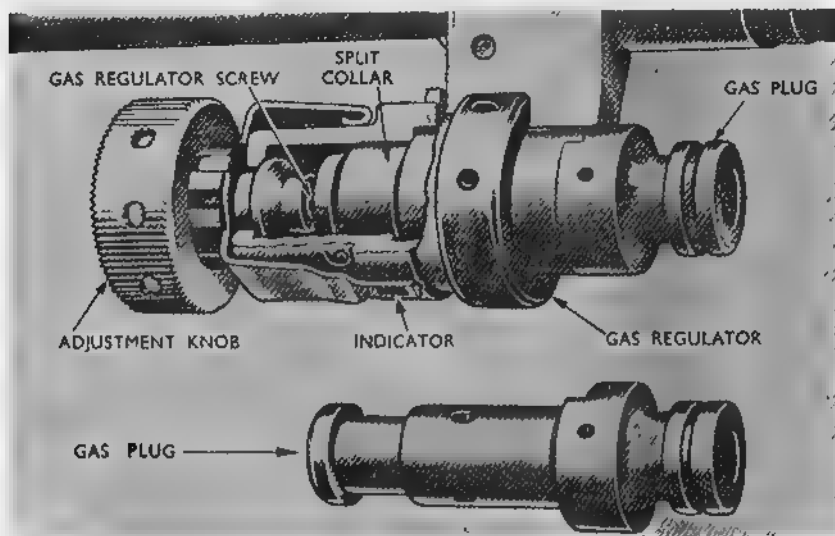

Fig. 5.—The gas regulator assembly
(2) **Gas regulator.** With the barrel removed from the gun unscrew the gas regulator anti-clockwise until free. Before removing it, put one hand under the regulator to prevent losing the split collars. (*The split collars are shown in Fig. 5.*) If these do not fall off when the regulator is removed, take them off and put them where they cannot be lost. Push the plug on the regulator seating to the rear and remove it. Under no circumstances will the gas regulator be stripped further except by an armourer.